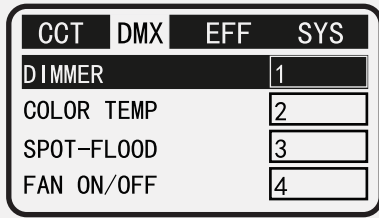

Figure 15 DMX Mode
- › Rotate and press the "MENU/ENTER" knob to set the DMX address in "DMX" mode, valid range for DMX addresses: 001-512; See Figure 15 and Table 2 for details.